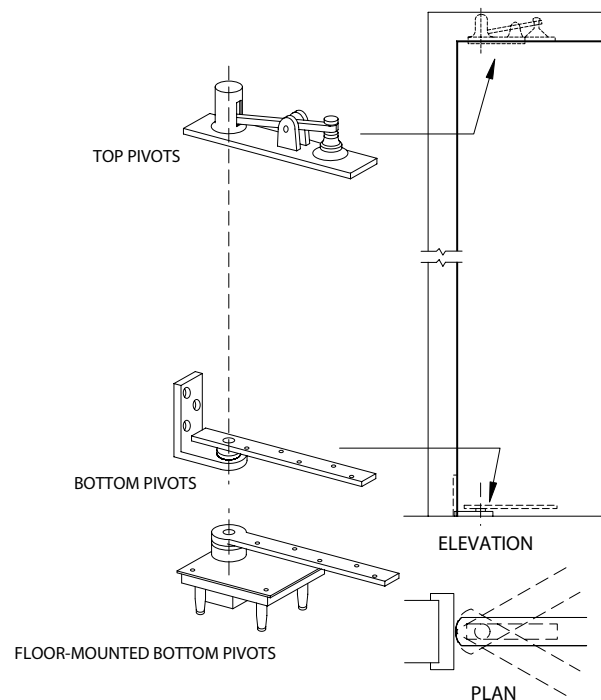

FIGURE 6b
2. The Center Pivot, Figure 6b, is used at the top and bottom of double-acting doors only. Pivots are completely invisible when the door is closed.